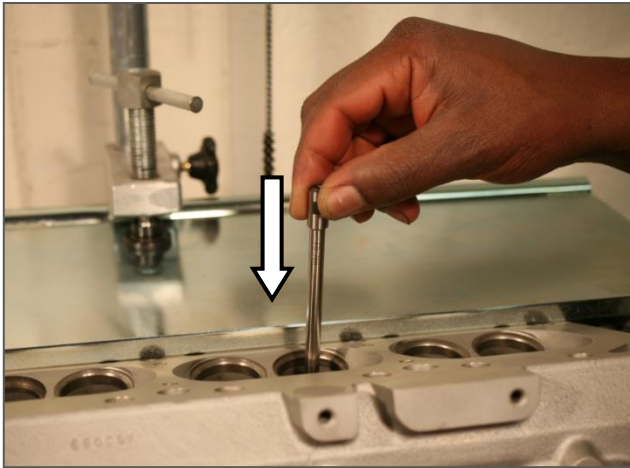

Fig. 8
4. Select the biggest possible pilot. For high precision processing a pilot must be inserted in the guidance with a maximum clearance of **0.01mm**, against the inner guide-diameter. The Pilot should be moveable without resistance. (Fig. 8) See formtool and pilot catalogue.